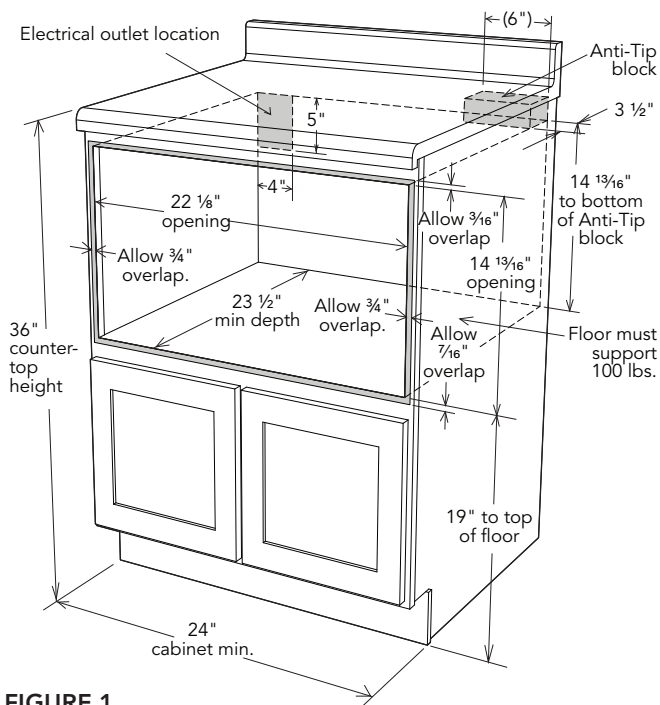
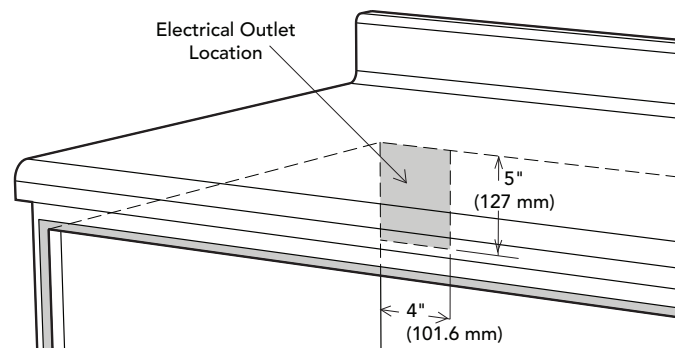

FIGURE 1
FIGURE 4
- FOR **SAFETY CONSIDERATIONS** DO NOT INSTALL DRAWER IN ANY COMBUSTIBLE CABINETRY, WHICH IS NOT IN ACCORD WITH THE STATED CLEARANCES AND DIMENSIONS ON PAGE 2, SEE FIGURE 1.
- Dimensions that are shown in FIGURE 1 must be used. Given dimensions provide minimum clearance. Locate electrical outlet in the shaded area in the upper left-hand corner of the cutout. See FIGURE 4.
FIGURES 1 and 2 contain many DrawerMicro Oven measurements for reference when planning the drawer's location.
To reduce the risk of tipping of the drawer, the Anti-Tip block must be properly installed located 14 13/16" above the floor on which the appliance will sit. The 6" Anti-Tip block must be provided by the installer. See FIGURE 1. The Anti-Tip block prevents serious injury that might result from spilled hot liquids.